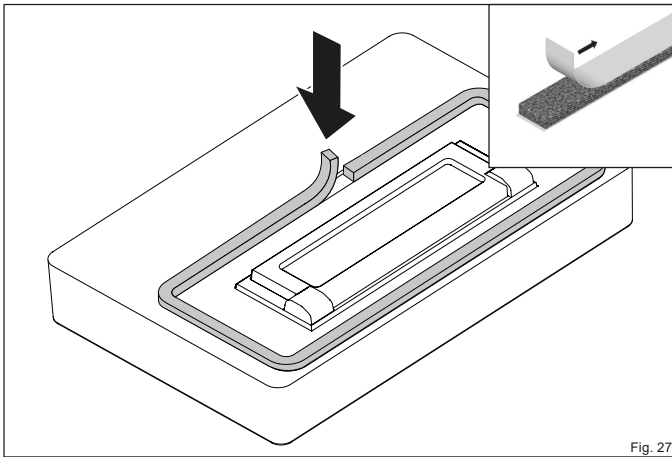

Fig. 27
- ▶ Stick the new seal evenly into the rail (Fig. 27).